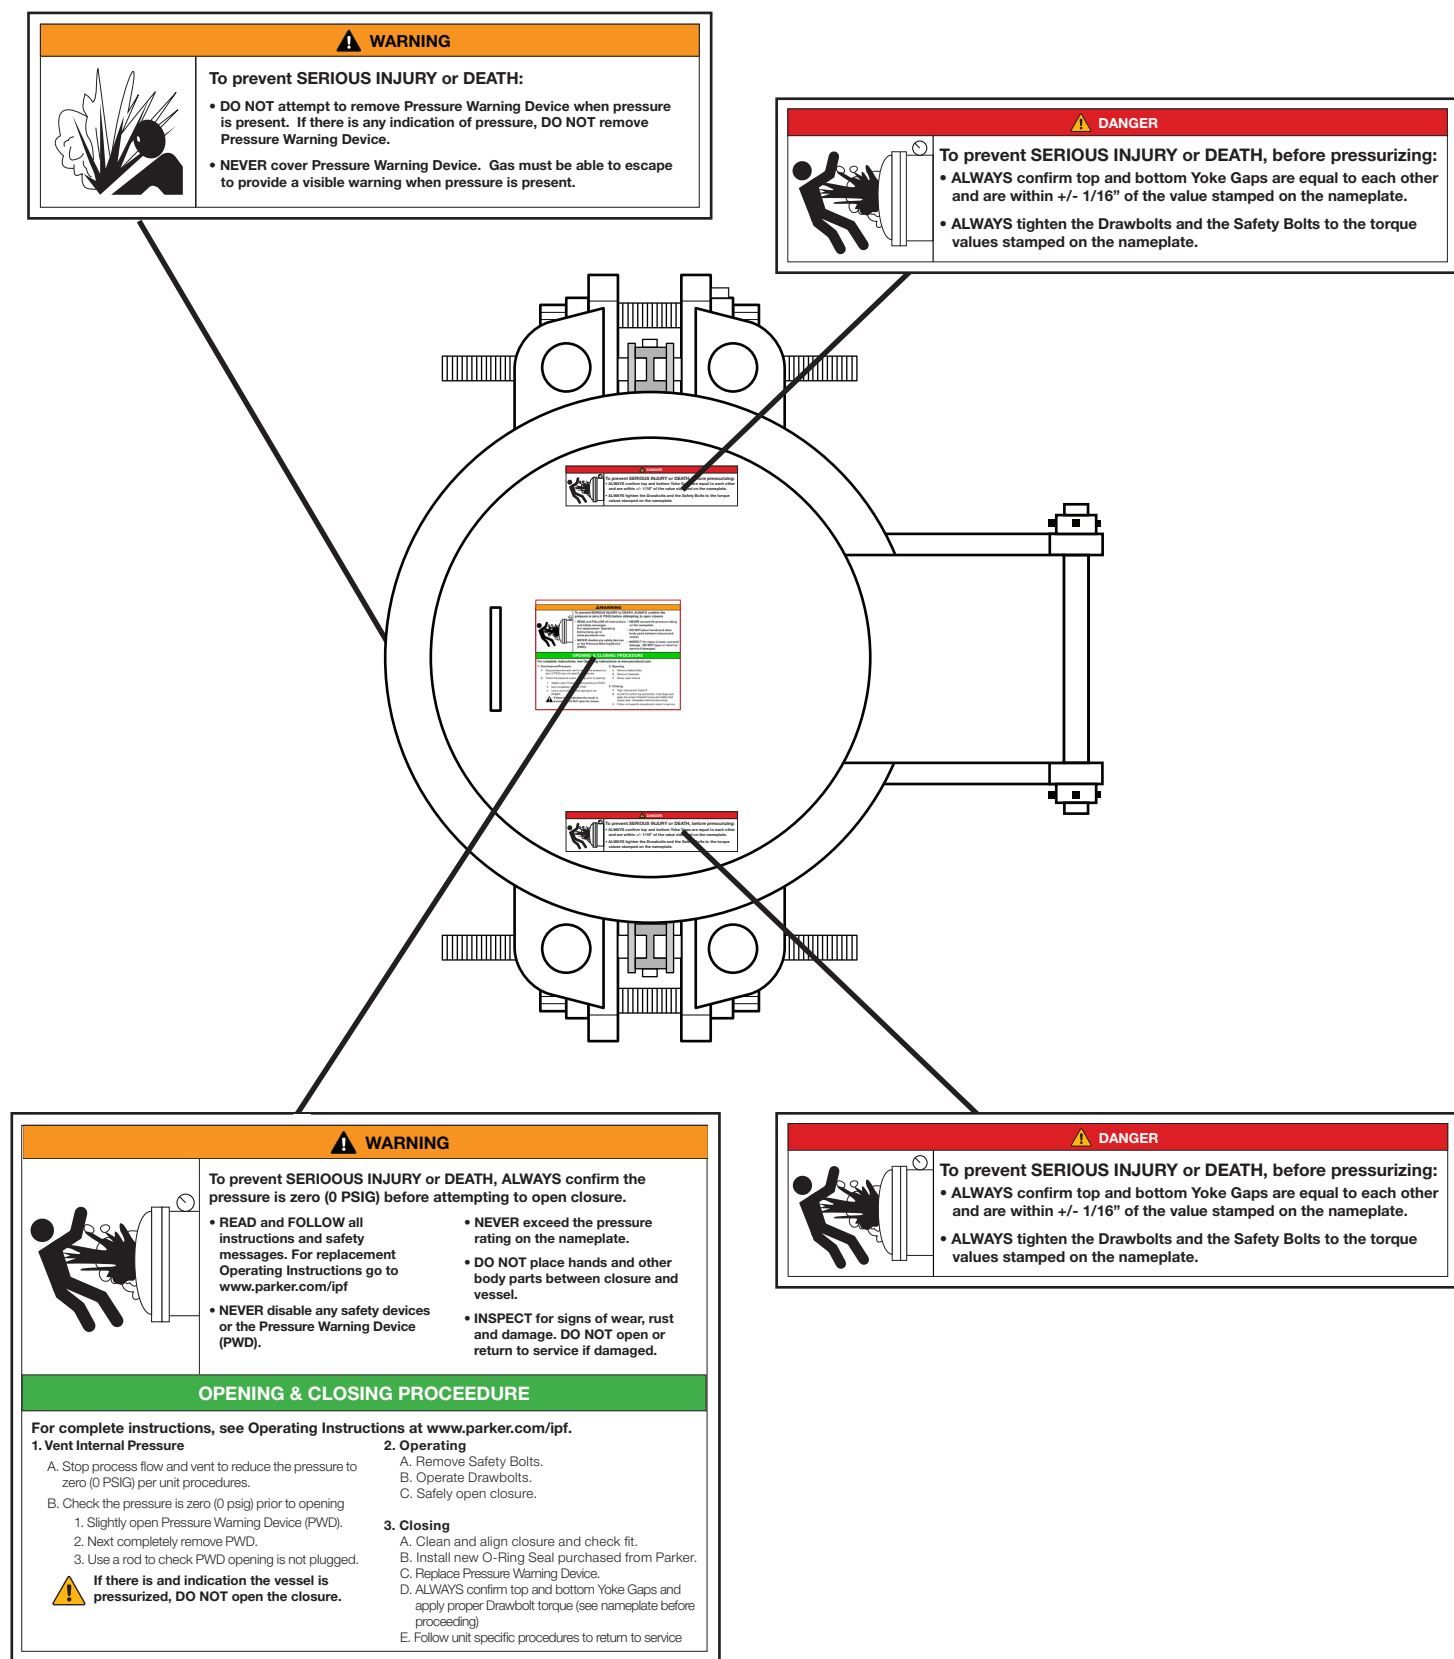

Figure 2: QOC Warning Labels Locations
3.2 The warning labels and their approximate locations on a Quick Opening Closure (QOC) are provided in Figure 2. Periodically inspect the warning labels to ensure they are clean and legible. If needed, contact Parker to order replacement labels.